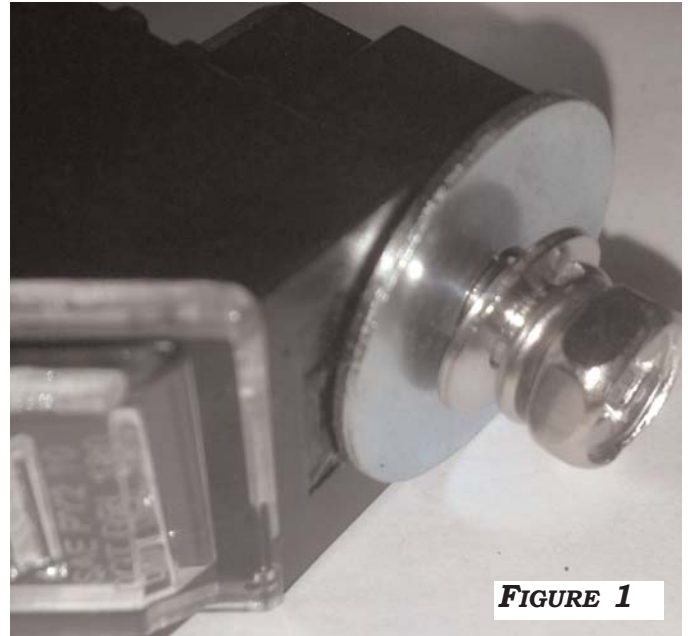

FIGURE 1
1. PRIOR TO INSERT THE UNIVERSAL DRL LED STRIP INTO THE OPENING OF A BEZEL, ENGAGE THE M6x14MM NUT WITH THE M6 WASHER AND NUT PRIOR TO FASTENING THE LIGHT STRIP. THE MOUNTING TAB SHOULD FALL IN BETWEEN M6x25 WASHER, AND THE BOLT-LOCK WASHER ASSEMBLY. REFER TO **FIGURE 1**.
2. ON THE ANGLED PORTRUDING TAB SLIDE A BLACK BEZEL CLIP ON THE TAB WITH THE RAISED EDGE FACING THE LED STRIP. ON THE REMAINING TAB, ENGAGE THE M6 x 14MM BOLT WITH THE BEZEL CLIP IN BETWEEN. REFER TO **FIGURE 1**.
3. STARTING WITH THE ALREADY ASSEMBLED SIDE, SLIDE THE BEZEL CLIP ONTO THE OPEN TAB AND USING AN OPEN-END 10MM WRENCH TIGHTEN THE BOLT. INSERT AND TIGHTEN THE BOLT ON THE REMAINING SIDE. SEE **FIGURES 1 & 2**.